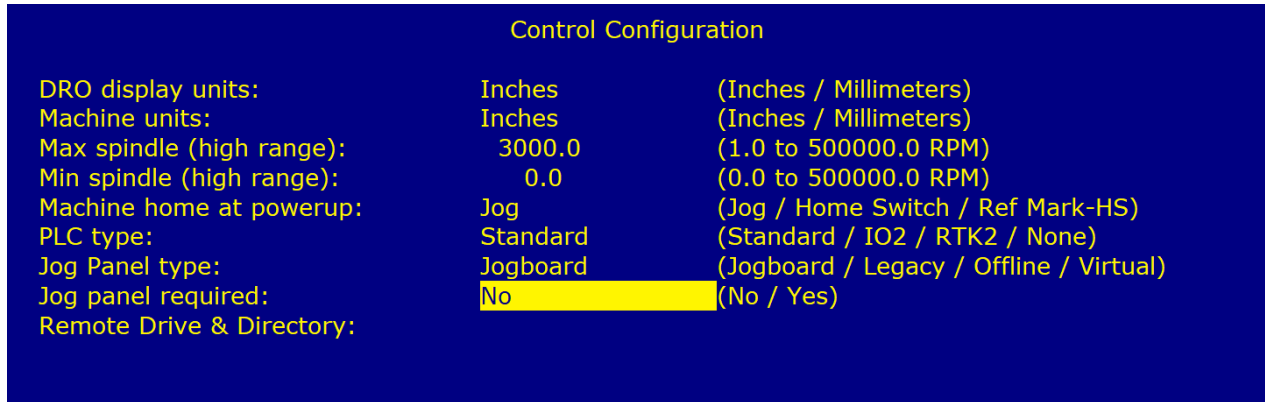

Figure 4.1.6
2. **Disable Jog Panel Communication Faults** (If you have a jog panel or pendant, connect it and skip this step.) Disable Jog Panel communication faults as seen in Figure 4.1.6. Use the arrow keys to select “Jog Panel Required” in the Control Configuration and press the space bar to toggle to “No”. Press **F10-Save**.